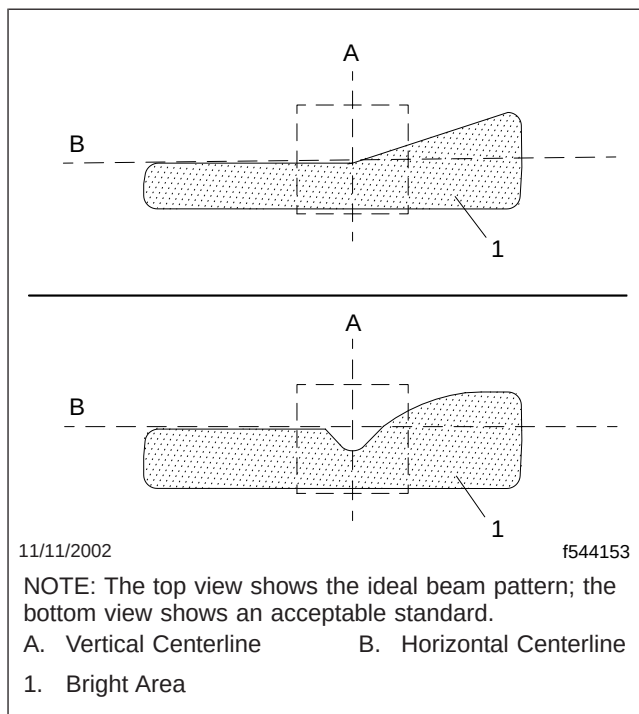

Fig. 3, Headlight Beam Patterns
5. Turn on the headlights to the low-beam setting. See Fig. 3 for the ideal and acceptable patterns for both headlights.